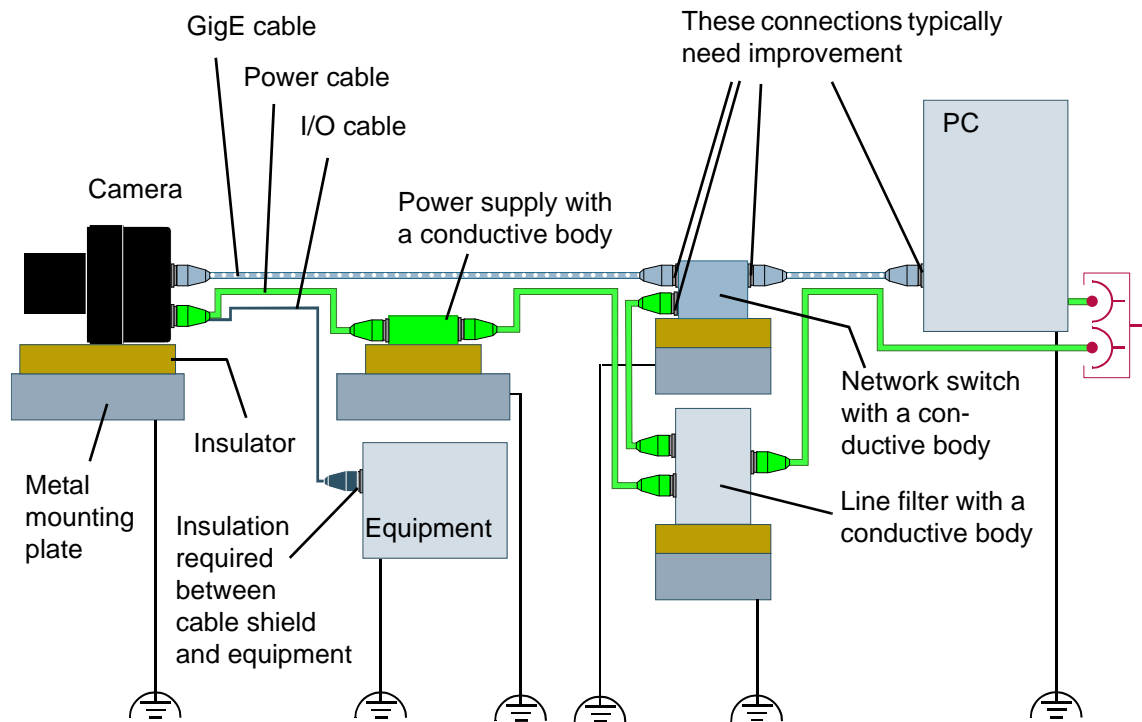

Figure 11: Isolated GigE Camera Attached to PC via an Isolated Network Switch
- Make sure that the PC chassis, the equipment, and the metal mounting plates for the electrical insulators and attached devices (camera, power supply, network switch, line filter, see Figure 11) are connected to functional earth ground.
- The I/O ground in the camera is isolated from the camera ground. Therefore, the cable shielding on the I/O cable should only be connected at the camera **OR** at your equipment. We recommend connecting the cable shielding at the camera and insulating it from the equipment (see Figure 11).